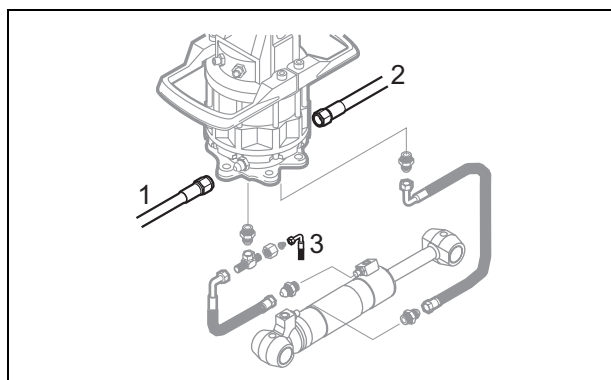

Fig. 19 Connect the hydraulic hoses for the grapple saw to the rotator
6. Connect the hydraulic hoses for the grapple saw to the rotator. See Fig. 19.